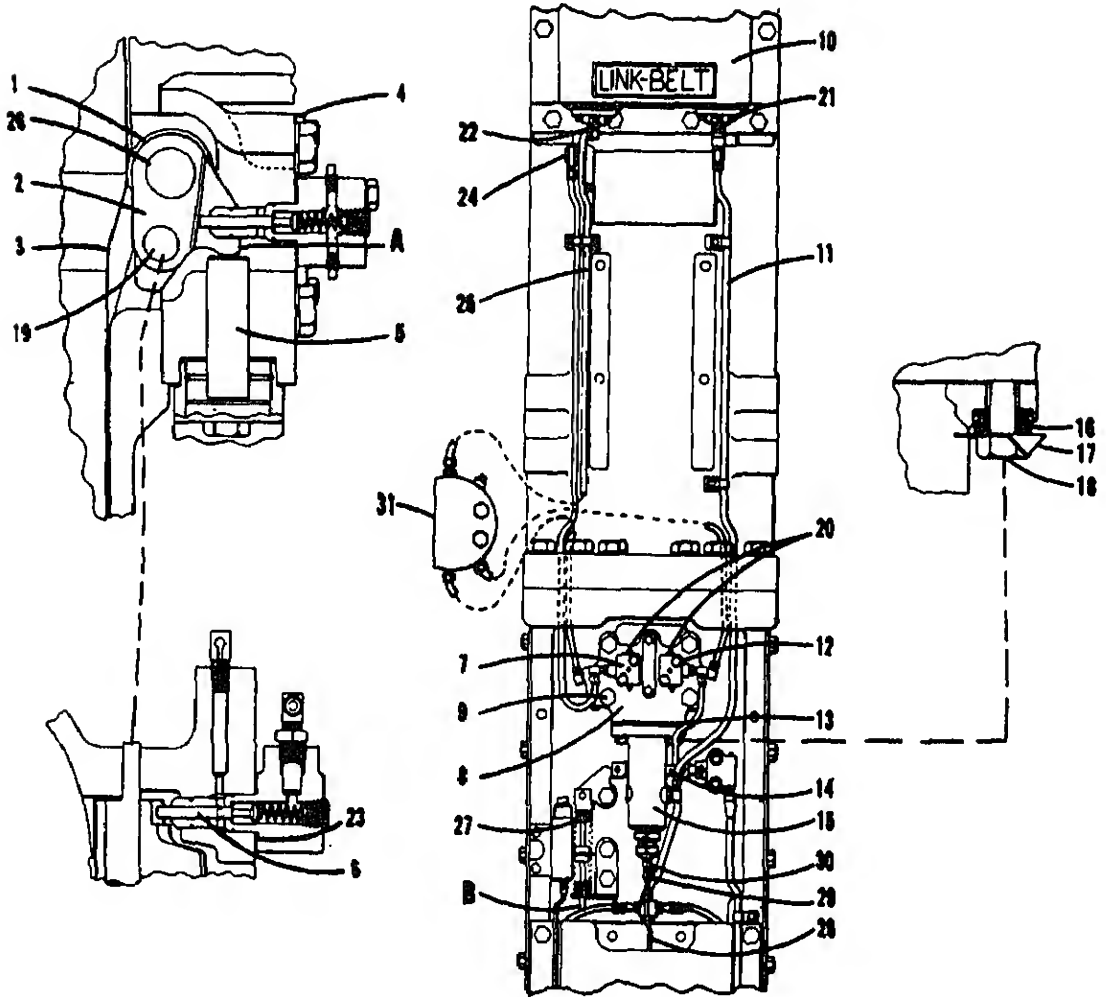
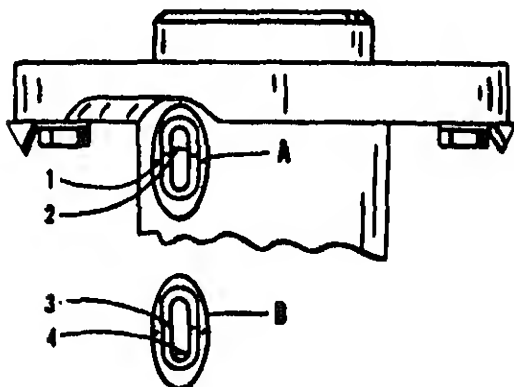

FIG. 11-10
FIG. 11-11
The fuel injection pump Fig. 11-10, is supplied with fuel oil, gravity fed through a hose from the fuel tank to the entrance located on the side of the pump.
- (b) Advance throttle to "on" position, lock rack return spring rod in compressed position (see "B" Fig. 11-10) with nail or piece of wire and return throttle to "off" position. Remove and plug fuel and lube oil inlet and outlet lines. Remove fuel and lube pumps from pump drive housing.
The fuel pump timing window is located left of-center and just below the pump mounting flange. Using a screwdriver, remove the screws, cover, and gasket to expose the timing marks as shown in Fig. 11-11. The following procedure may be used to check or retune the pump.
- (1) INDEX MARKS ON WINDOW
- (2) TIMING MARK
- (3) INDEX MARKS
- (4) TIMING MARK
- (a) Lift the entire Hammer clear of piling, anvil in the down position, and tip the Hammer forward slightly, toward the fuel pump. This assures that the weight of the ram is against the cam roller, Fig. 11-11, forcing the tappet to the lowest position it goes during operation.
- (b) The relative position of the timing marks should appear somewhat as pictured in Detail (B) of Fig. 11-11. Timing mark should be at least $1/32$ " above the bottom of the window to prevent possible bottoming of the internal parts of the pump.
THE TIMING MARK FIG. 11-11, SHOULD NEVER BE ALLOWED TO LEAVE THE WINDOW EITHER DURING HAMMER OPERATION OR WHILE CHECKING TIMING.
When installing a new pump, leave capscrews Fig. 11-10, loose so that the timing mark never leaves the window; tighten to position timing mark and determine shims required to obtain as close to $1/32$ " as possible. Insert shims and tighten per recommended torque. Check this dimension again.
- (c) Set the Hammer on a piling, or driving head, latch in and raise the ram about 17". At this time the timing marks will appear as in Detail (A), Fig. 11-11. Timing mark (2) should be a minimum of $1/32$ " above index mark (1). Loosen capscrews Fig. 11-10, and determine number of shims needed to obtain this dimension and in no case should timing mark (2), Fig. 11-11, be more than $3/32$ " above index mark (1).
Satisfactory operation of the fuel pump depends upon proper care and maintenance of its precision parts. Above all, the working parts of the pump must be kept dirt free. Weekly inspect the control rack Fig. 11-10, for possible dirt accumulation and clean with a brush and fuel oil to prevent excessive wear of rack and mating gears. When assembling pump on the housing, carefully wipe all dirt from the mounting surfaces to insure square seating of the pump. Use a lint free wiping cloth for this purpose. Never use waste.
WHENEVER IT IS NECESSARY TO REMOVE HIGH-PRESSURE LINE, THE BRONZE NUT FIG. 11-10, SHOULD BE LOOSENED FIRST AND THEN THE STEEL NUT CAN BE REMOVED FROM THE MALE FITTING.
- (c) Straighten lockplate Fig. 11-10, and remove capscrews which hold pump in place.
- (d) Advance throttle to full on, pin return spring rod in compressed position (See "B" Fig. 11-10) with piece of wire or nail and return throttle to "off" position.
- (b) Install capscrews with six spring washers beneath each capscrew. Spring washers have to be installed as shown in Fig. 11-10, with first two convex side out, the next two concave side out, and the last two convex side out.
- (f) Remove cover plate Fig. 11-10, from housing which contains the pump operating bell crank.